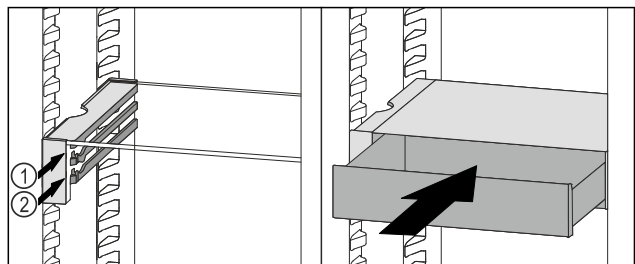

Fig. 66
- ▶ Place the VarioSafe drawer behind the stoppers on desired rib *Fig. 66 (1)* or *Fig. 66 (2)*.